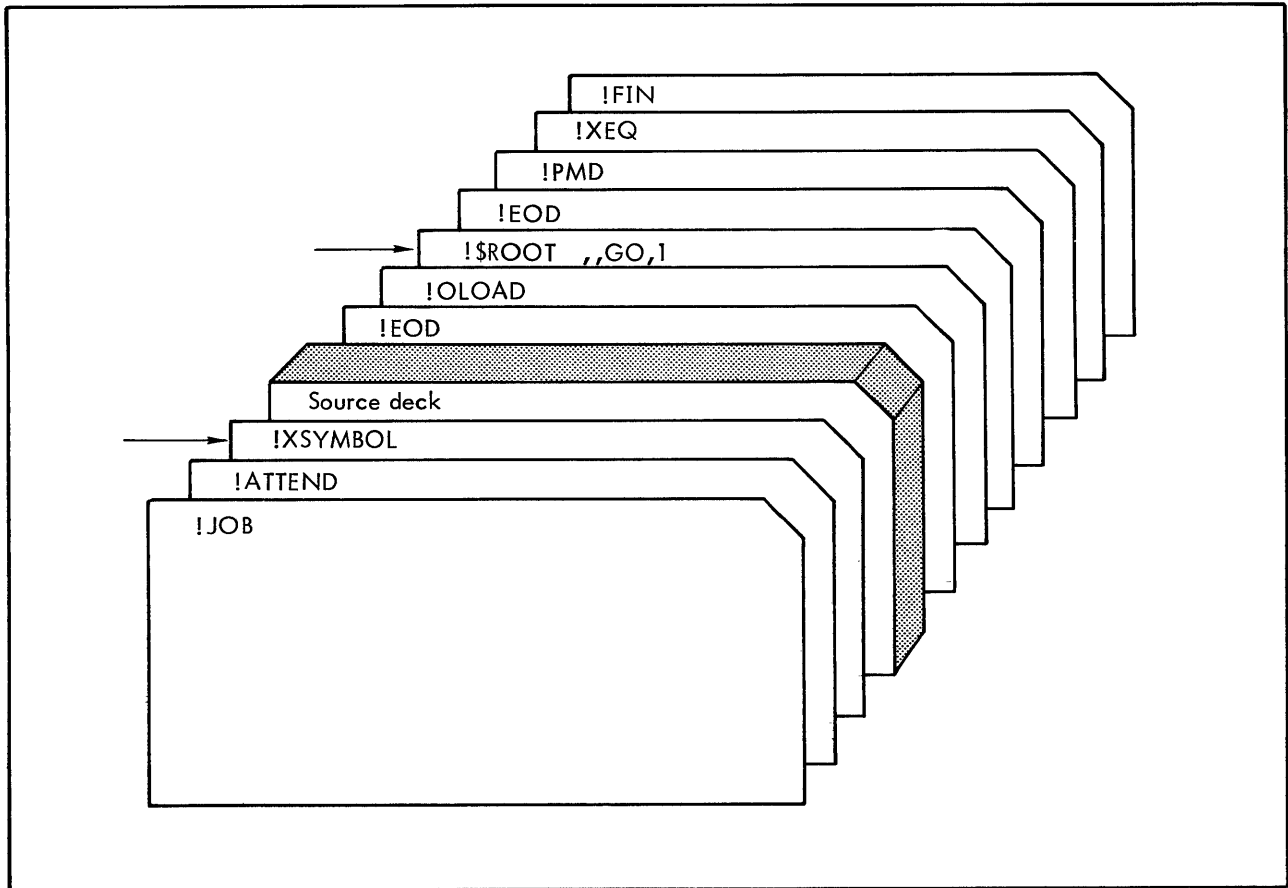

Figure 11. Assemble, Load, and GO
In the load-and-go example illustrated in Figure 11, the !XSYMBOL card specified by default that listing output is to be transmitted to the LO device, that binary output is to be produced (BO), and that the object program produced from the assembly is to be written on the RBMGO file, from which it is later read by the Overlay Loader as input.